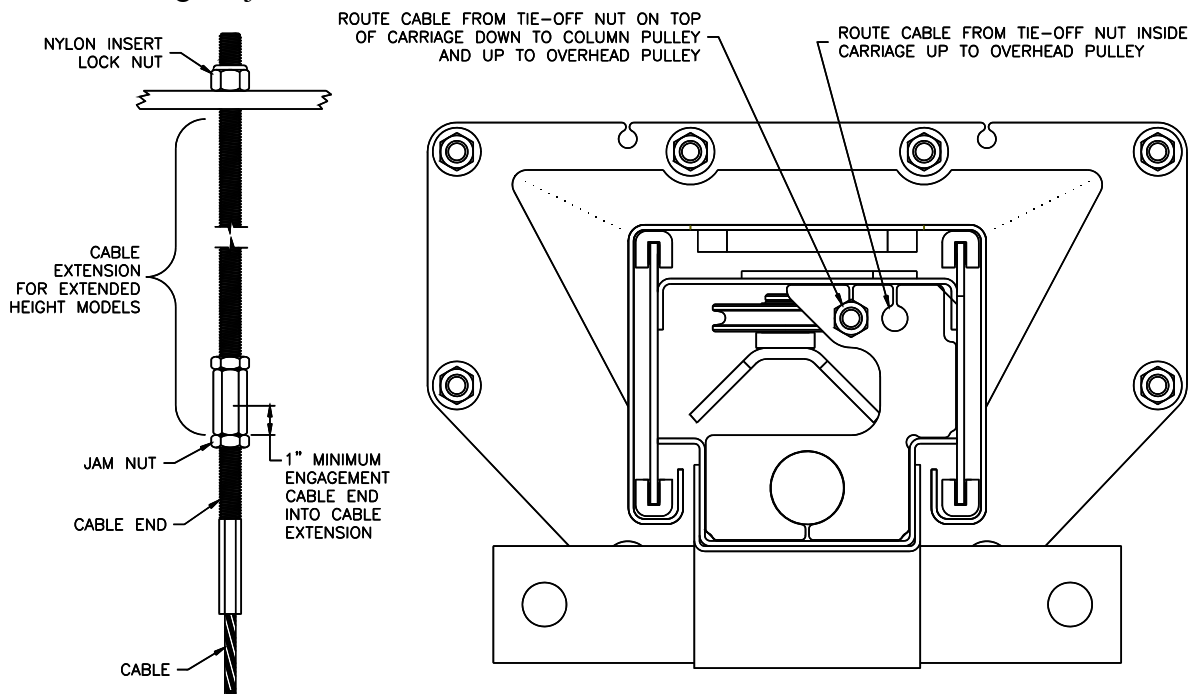

Figure 6
12. Manually raise the carriages to a comfortable working height and set in locks at equal heights. Route the synchronizer cables (Fig. 6). For Models 12001 & 12002 (extended height models) cable extensions are required. Install one extension inside each carriage for both models and an additional extension on top of each carriage for Model 12002. Install one jam nut to cable end before threading cable end 1 inch minimum into extension. Lock all cable extensions to cable ends using the jam nut.